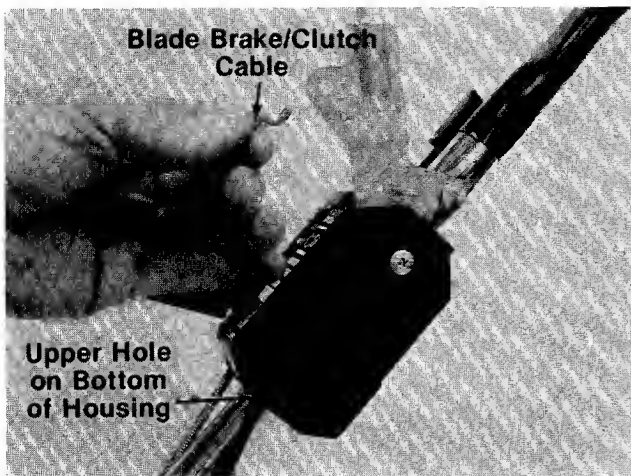

FIGURE 4.
5. Place the end of the blade brake/clutch cable into the upper hole on the bottom of the throttle control housing, and through the slot as shown in figure 4. Be careful not to bend or kink the cable.